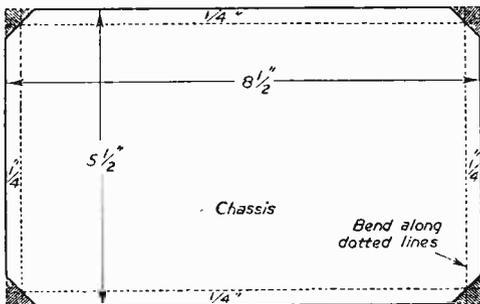
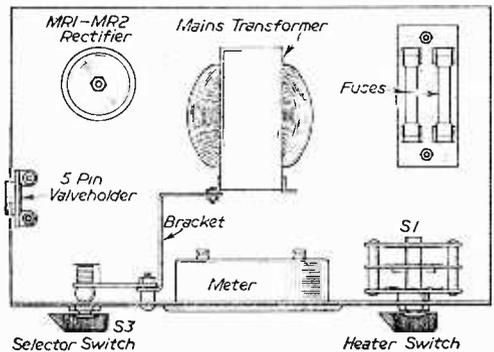
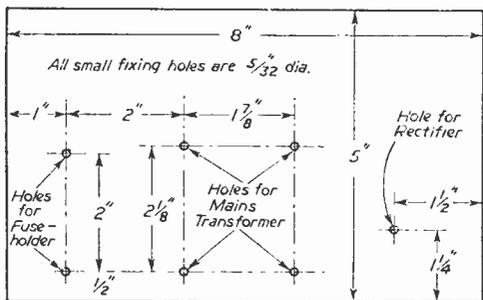
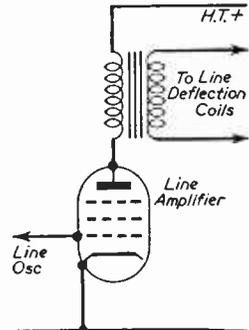

Fig. 3.—Details of the top of chassis.
Fig. 7.—The layout.
Fig. 4.—Drilling details for the chassis.
Fig. 10.—A line output stage for use with Fig. 9.
hole marked A is first drilled  $\frac{3}{16}$ in. and then filed larger to suit the size of toggle switch used. The hole marked B may be  $\frac{3}{16}$ in. or  $\frac{1}{4}$ in. according to the type of variable resistor used. Now mark off and cut out the chassis, as Fig. 3. and bend up the  $\frac{1}{4}$ in sides and mark out and drill as Fig. 4. The front panel and chassis may now be placed together, and by marking through the centre  $\frac{3}{16}$ in. hole and drilling through the chassis the panel can be secured temporarily with a 6BA screw whilst the other two holes are then drilled and secured with 6BA screws. Now fit the mains transformer, using 4BA screws, then the rectifier, twin fuseholder, 3 switches, resistor and meter. In fitting the meter place it in the hole and get it level and then mark through the holes on to the panel and drill  $\frac{3}{16}$ in. holes securing with 6BA screws. Make up the bracket as in Fig. 5 and bend the two ends at right angles so that it appears as in Fig. 7. It will be seen that one end of the
bracket is secured to a bracket on the mains transformer whilst the other end is fastened to the front panel with 4BA screws. The object of this bracket is first to strengthen the support of the panel and second to provide a position for a dial bulb bracket. The cover can now be made as Fig. 6, bending the two 7in. sides first, then the  $\frac{1}{2}$ in. sides and finally the remaining 7in. side. Now drill holes marked A in Fig. 6 and secure with 6 BA screws. Next mount the valveholder by means of two suitable brackets, as Fig. 10 in position as Fig. 7. Place cover in position and mark and drill a  $\frac{3}{32}$ in. hole in the centre of the
**A**LTHOUGH the general practice nowadays is to provide EHT by the line flyback method, there are still many sets of about the time T.V. broadcasting restarted, which use the R.F. oscillator method for obtaining EHT for the picture tube. In present-day sets it will only be found in projection models where about 25Kv is required on the tube. Fig. 9 gives a circuit showing a typical R.F. oscillator. Fig. 10 shows a line output stage used with it. It will be noticed that with this type of set the failure of the line output stage does not stop the EHT so that it is necessary in a set where the line fails to keep the brilliance control well down; otherwise damage will be caused to the C.R.T. In the larger projection sets this is covered by electronic circuits which disconnect the EHT from the C.R.T. should either the line or frame circuits fail. This is very necessary in these sets owing to the very high EHT provided. The oscillation frequency varies according to make and will be between 85 Kc/s and 300 Kc/s. The oscillator valve is generally a beam tetrode. Troubles that can arise here are mostly either faulty valves or shorting or arcing across the coil. Replacements are about the only solution.